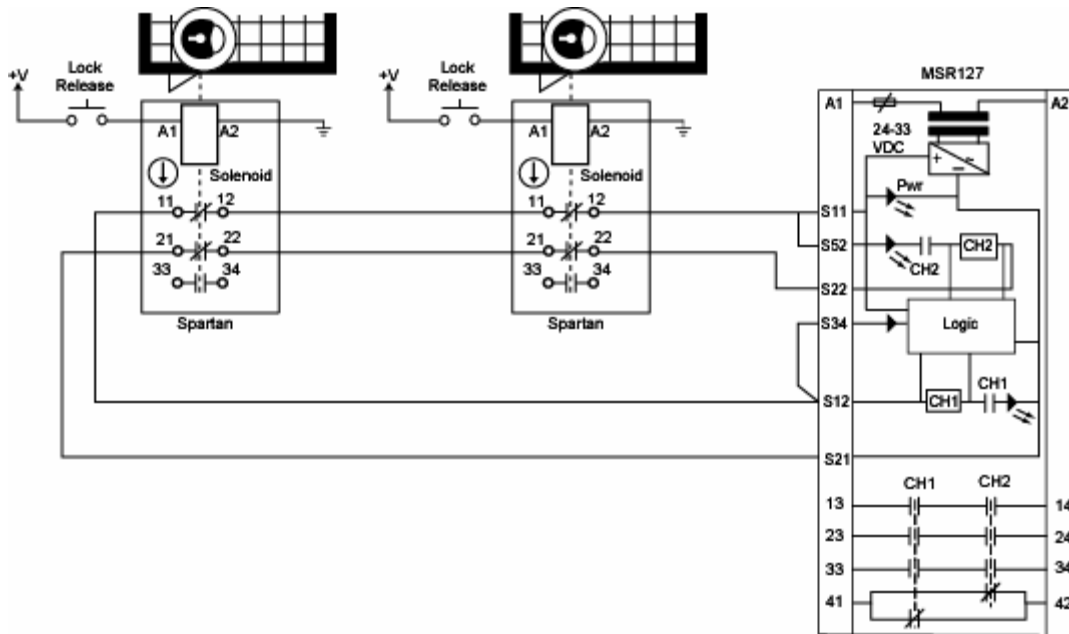

Figure 17. Multiple Spartans
- h. The input circuit arrangement shown in Figures 17 meets the requirements of EN954-1 Category 3.